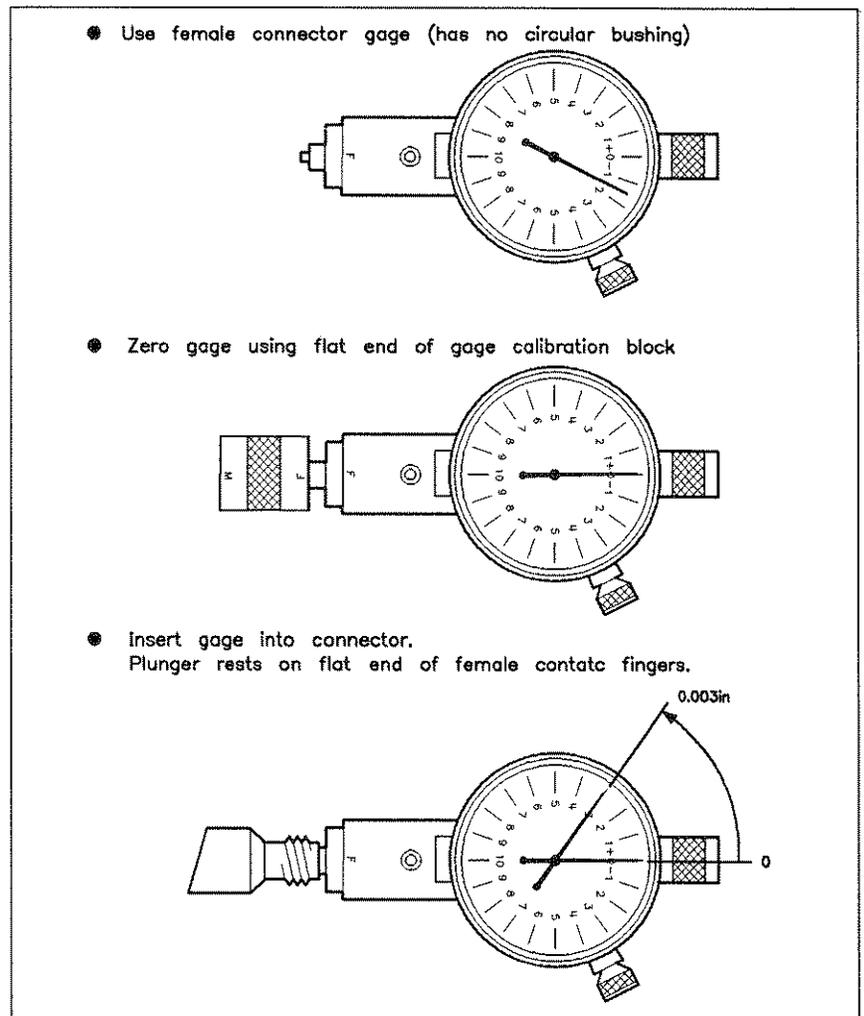

Figure 3-12.
1. Refer to Figure 3-12. Locate the female SMA connector gage (usually marked F).